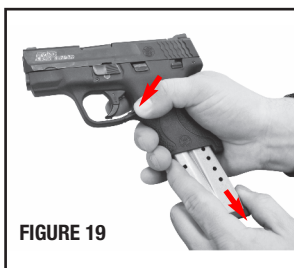

FIGURE 19
- Point the pistol in a safe direction. Make sure your finger is off the trigger and out of the trigger guard. Depress the magazine release, and remove the magazine (FIGURE 19).